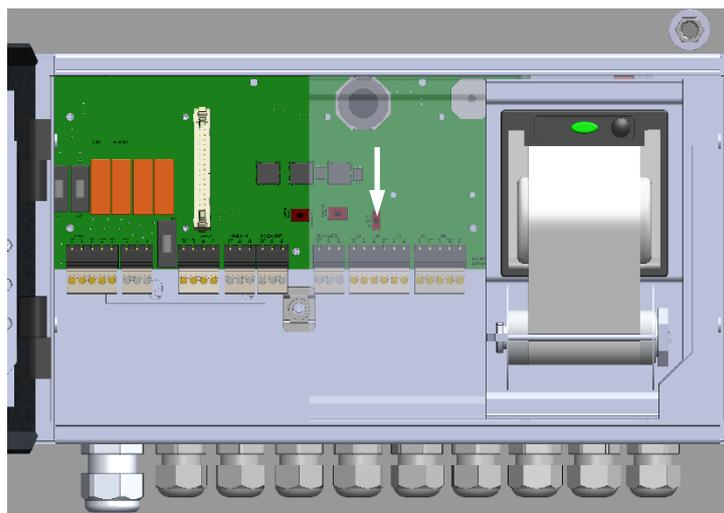

Figure 30. Flow meter switch should be set downwards (B1).
- Check that the switch (only on circuit board MTPOW with version C or later) inside the communication unit is set downwards. See *Figure 30*.